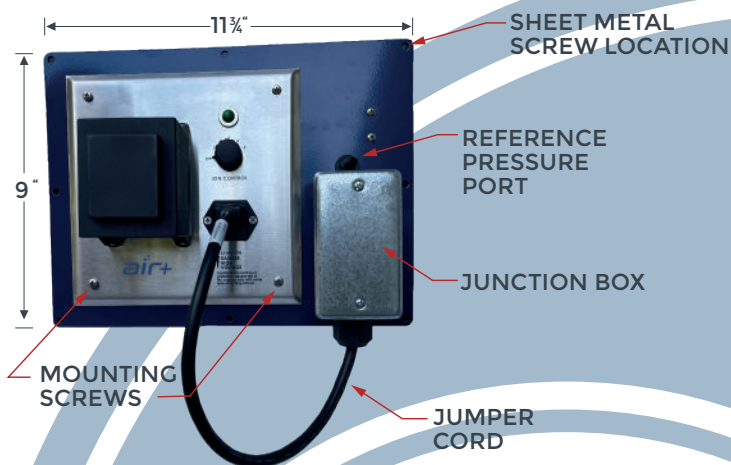

FIGURE 4
**Step 3.** Close the junction box cover and connect the jumper cord to the ionizer power input fitting. (See Figure 4).